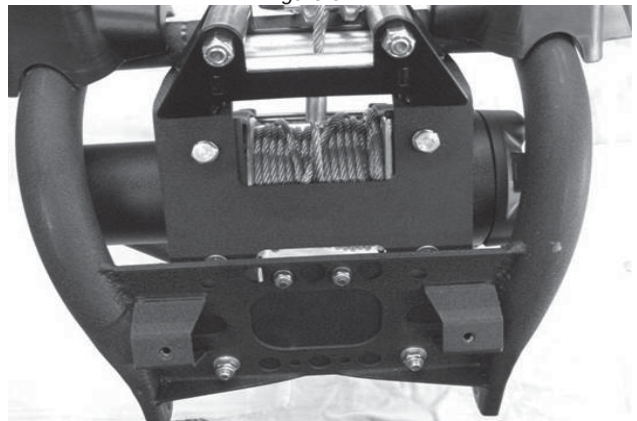

Figure 10
11. Secure winch mounting bracket and winch to grab bar using 2 M8-1.25 x 20mm hex head bolts, flat washers and M8-1.25 locking hex nuts in the rear two mounting holes. In the front mounting holes use 2 M6-1.0 x 18mm hex head cap screws, flat washers and M6-1.0 locking hex nuts. (figure 10)